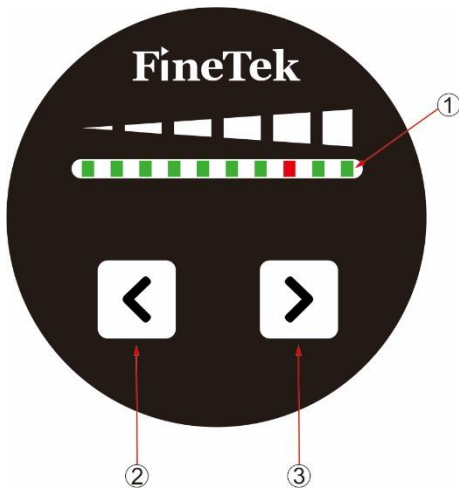
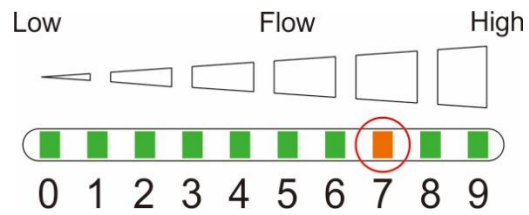
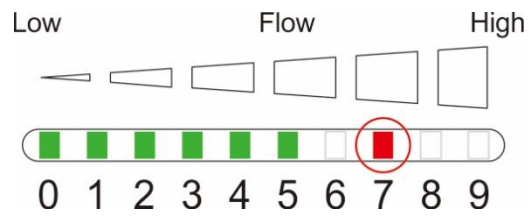
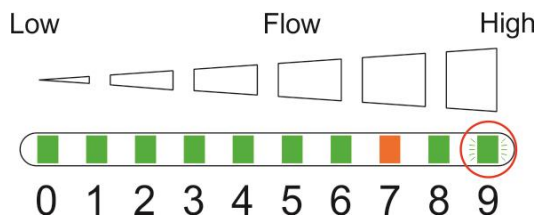

Figure 1
Figure 2
Figure 3
Figure 4
①	<ol style="list-style-type: none"> <li>1. Ten bicolor LEDs.</li> <li>2. Green LED On: This LED indicates a fast or slow flow and displays the current flow rate (Figure 1).</li> <li>3. Orange LED On: (Figure 2) <ul style="list-style-type: none"> <li>● The flow rate is at the alarm setting point.</li> <li>● When the switch output functions of the relay (NC/NO) and NPN/PNP (Enable/Disable) switch alternately.</li> </ul> </li> <li>4. Red LED On: The flow rate is lower than the alarm setting; output action (Figure 3)</li> <li>5. The green LED 9 flashes to indicate that the flow rate exceeds the current maximum flow rate setting (Figure 4).</li> <li>6. The green LED 0 flashes to indicate that the flow rate is lower than the current minimum flow rate setting (Figure 5).</li> </ol>
②	Left arrow key (for setting)
③	Right arrow key (for setting)